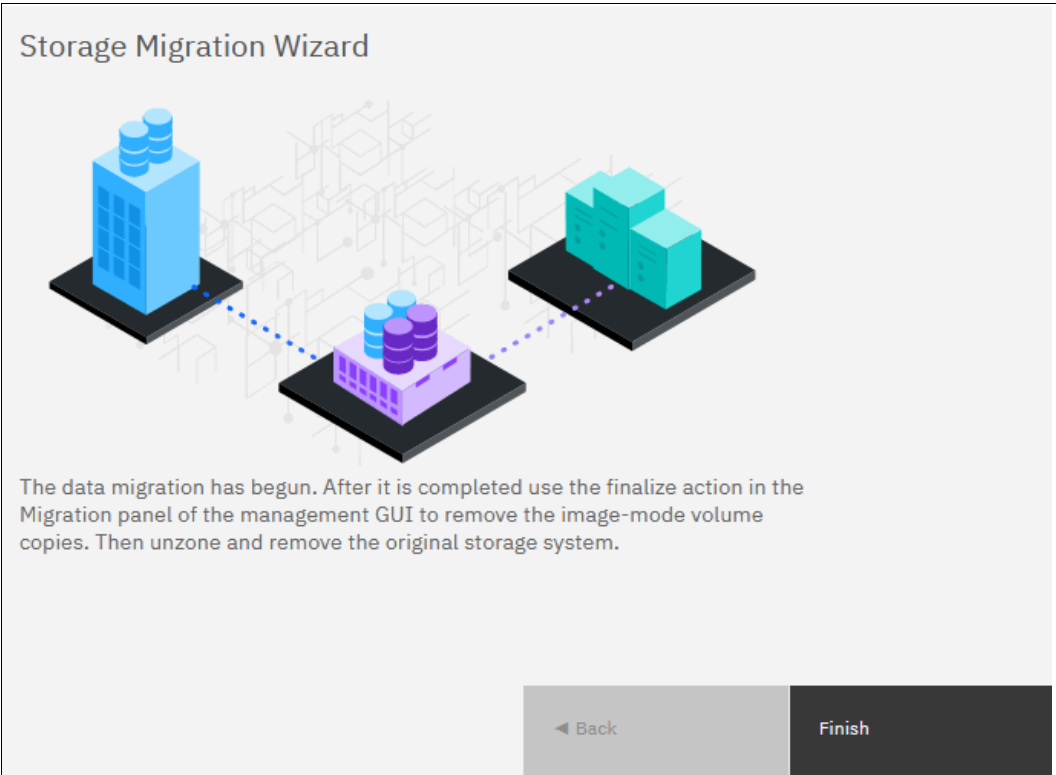

Figure 8-17 Migration is started
15. Click **Finish** to end the storage migration wizard, as shown in Figure 8-17.